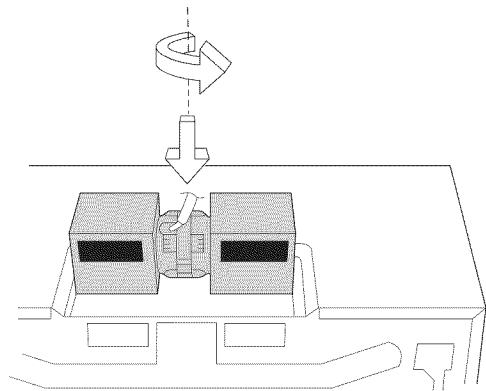

Figure 9
3. Rotate the Hood Fan Unit and turn end-over-end so that the fan blade openings are facing the back of the oven. Replace Hood Fan Unit into the oven. Be careful not to pinch the lead wire between the inner bracket and the Hood Fan Unit. See Figure 9.